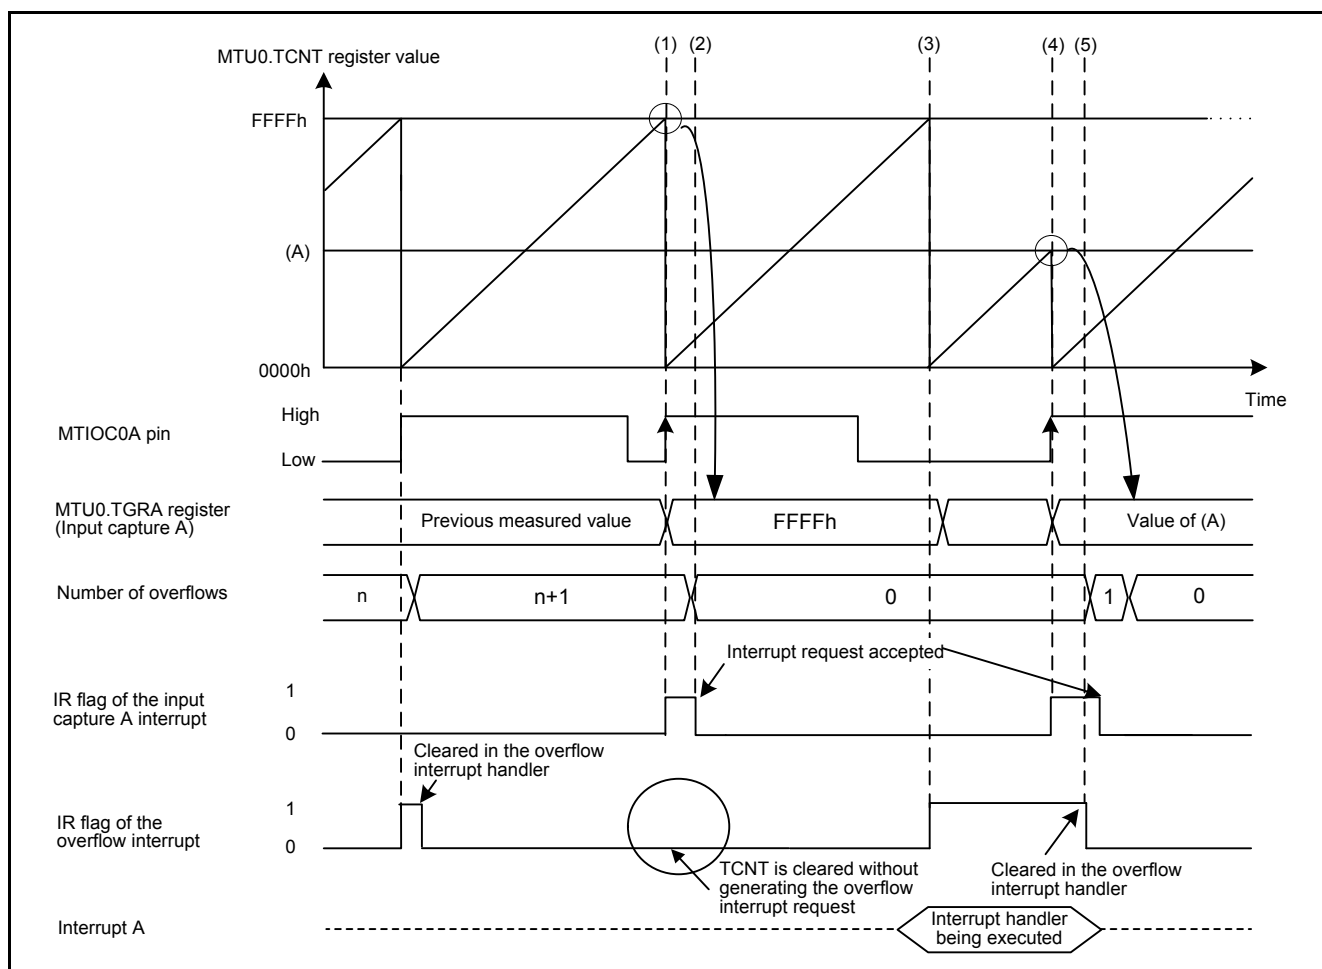

Figure 5.2 Timing Diagram When an Input Capture and Overflow Occur Simultaneously
- (1) When a rising edge occurs on the signal input to the MTIOC0A pin while the MTU0.TCNT register value is FFFFh, the MTU0.TCNT register is cleared and the input capture A interrupt request is generated after FFFFh in the MTU0.TCNT register is transferred to the MTU0.TGRA register.
- (2) In the input capture A interrupt handler, the number of overflows is cleared.
- (3) When the MTU0.TCNT register value overflows while an interrupt handler (hereinafter referred to as interrupt handler A) other than an overflow interrupt handler and input capture A interrupt handler is being executed, the overflow interrupt handler is delayed.
- (4) When a rising edge occurs on the signal input to the MTIOC0A pin while interrupt handler A is being executed, the MTU0.TCNT register value is transferred to the MTU0.TGRA register and the input capture A interrupt request is generated (input capture A interrupt handler is delayed.)
- (5) When interrupt handler A is completed, the overflow interrupt which has the higher interrupt priority level is executed first. In the overflow interrupt handler, the number of overflows increments by 1. In the input capture A interrupt handler which is subsequently accepted, the pulse period is calculated. Then the number of overflows is cleared.
Figure 5.2 shows the Timing Diagram When an Input Capture and Overflow Occur Simultaneously. (1) to (5) in the figure correspond to (1) to (5) in the description above.